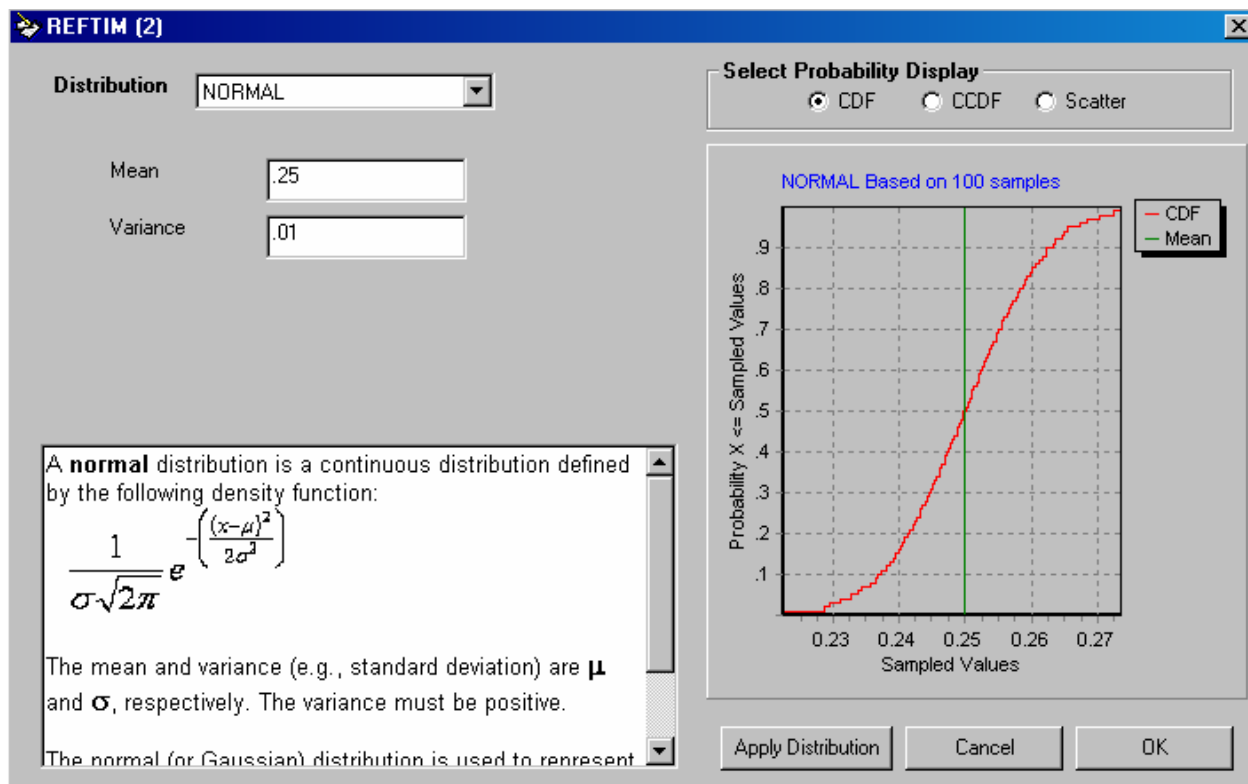

Figure 4-42 Assigning a Probability Distribution to a Parameter
Notice that the variable name is shown in the title area of the form. If an array or vector element is associated with a distribution, then the index is also part of the name shown in the title bar. In Figure 4-42, REFTIM(2) in the caption portion of the form indicates that the second value of vector REFTIM is being considered for modification.